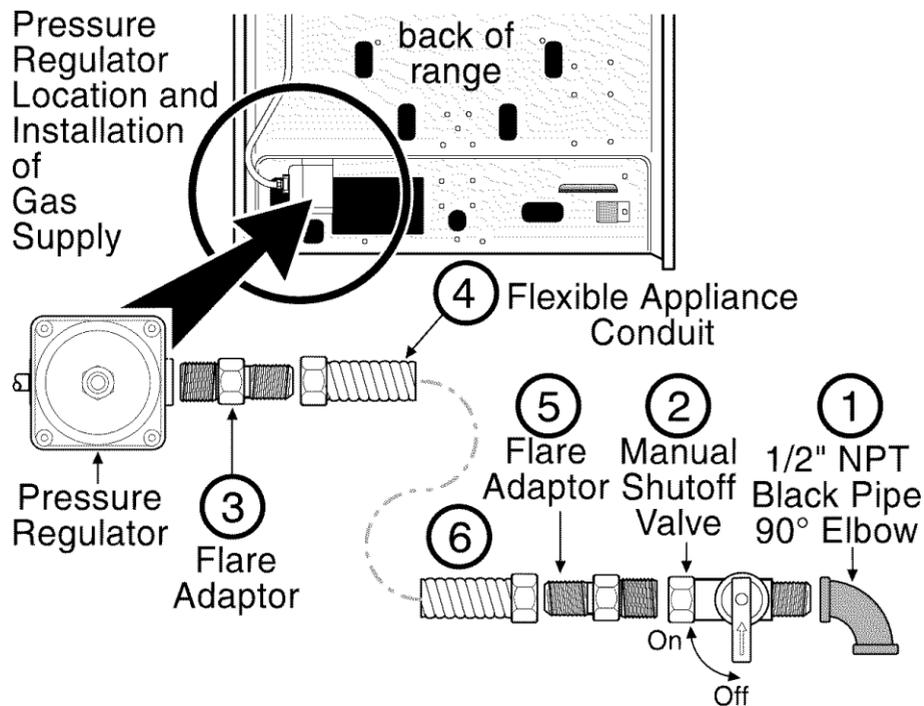

Fig. 37
This range is pre-set to operate on 4" natural gas manifold pressure. A convertible Pressure Regulator is connected to the manifold and **MUST** be connected in series with the gas supply line (Refer to Fig. 37). If the LP/Propane conversion kit has been used, follow instructions provided with the kit for converting the pressure regulator to LP/Propane use. The LP Kit can be found on the back side of the range or ordered from your dealer.
**E Connect the range to the gas supply (refer to Fig. 37).**
Before connecting gas supply to range, **review the suggested power source location drawings** (Figs. 1, 3 & 4). To prevent leaks apply pipe joint sealant on all male (outside) pipe threading. The Pressure Regulator can be found mounted to the lower left rear of range (See Fig 37). To install the gas supply:
- 6.) Attach flexible Appliance Conduit to Flare Adapter on Shut-Off Valve (Fig. 37).